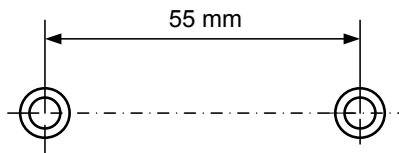

Figure 3 – Installation area marking
5.7 Marking of installation area should be done in accordance with Figure 3
Due to Figure 3 drill two openings with diameter of 6 mm and insert the dowels.